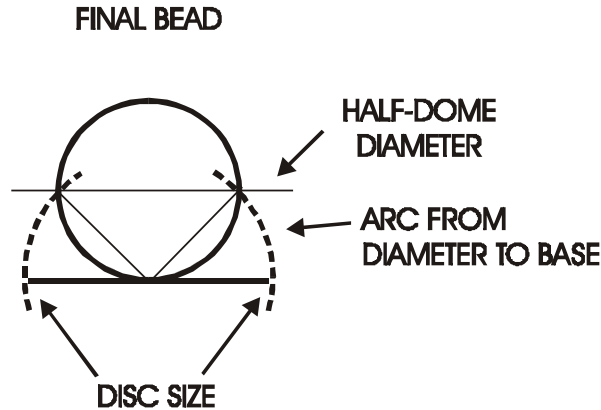

Fig. 11.1. Determining Disc Size Based on Size of Bead (Finegold-Seitz Method).
2. **Finegold-Seitz³ Method.** The authors describe the method for determining the size of the blank for a bowl. As **Fig. 11.1** illustrates, you draw a line from the center bottom to the half-sphere diameter in your elevation, then swing an arc from that edge to the base to determine the diameter of the disc. Again, this is an estimate because of the metal gauge and the amount of stretch due to hammer blows that occur in doming. This method can be useful for determining the estimated size of a blank needed for a dome that is less than a full half-sphere (e.g., 1/4 domed, or oblate spheroid bead).